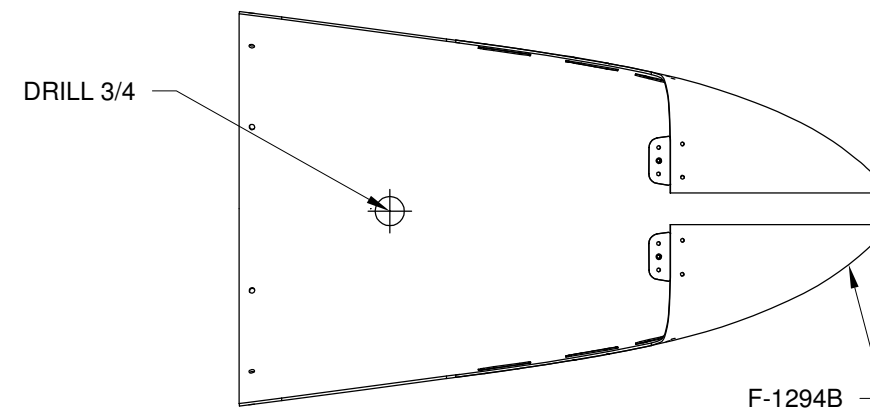

FIGURE 3:
Step 7: Drill a 3/4 hole using a step drill bit within the scribe line at the bottom of the F-1294B Lower Tailcone Fairing as shown in Figure 3.